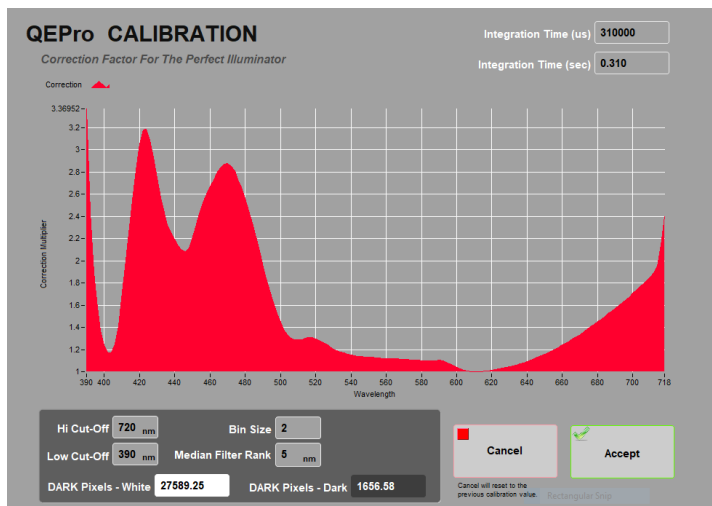

Figure 5. QE Pro Normalize spectra.
5. After the **Dark Calibration** is complete, the normalize spectra will appear (Figure 5). Click **Accept** to apply the calibration.